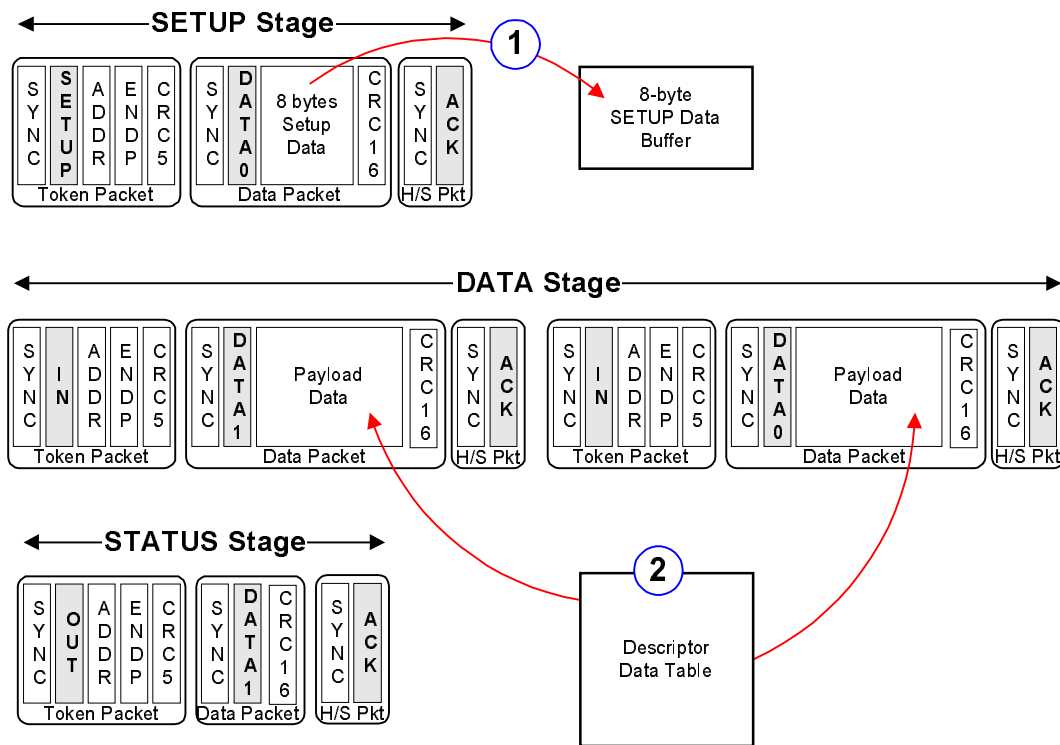

Figure 2. EZ-USB Logic Does Most of the Work for a "Get Descriptor" Request
*Figure 2* shows how the EZ-USB handles the same "Get Descriptor" command. The EZ-USB core directly transfers setup packet data into a dedicated eight-byte setup data buffer for CPU inspection (1). Then the 8051 loads an EZ-USB pointer with the start address of the requested descriptor data (2). The EZ-USB Smart Engine Core does the rest. The Smart Engine Core automatically takes care of error checking and retries, dividing the table into packets for the various IN transfer and responding to the Status stage.